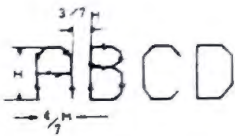

Fig. 10-4
When a command such as PABCD ..... (LF) is issued, the pen draws the character A starting at its current position, and then the characters B, C ..... positioned as shown in Fig. 10-4. The height H of the characters can be increased by an ALPHA SCALE command, and the spacing between the characters can be specified by an ALPHA SPACE command. If no spacing specification is given, it will be set as shown in Fig. 10-4.